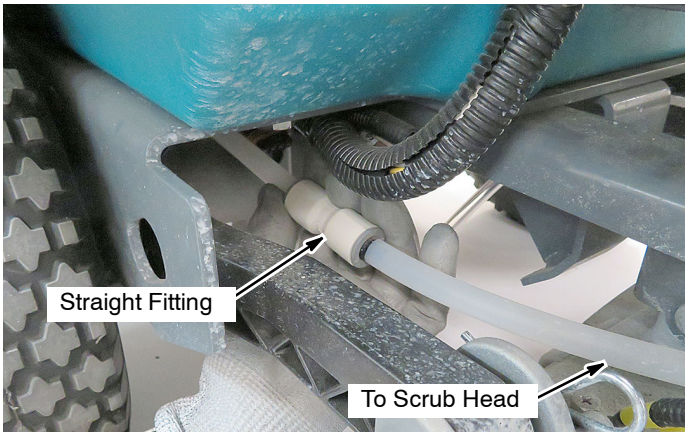

Fig. 14
13. Remove the straight fitting from the scrub head solution feed hose as shown (Figure 14).